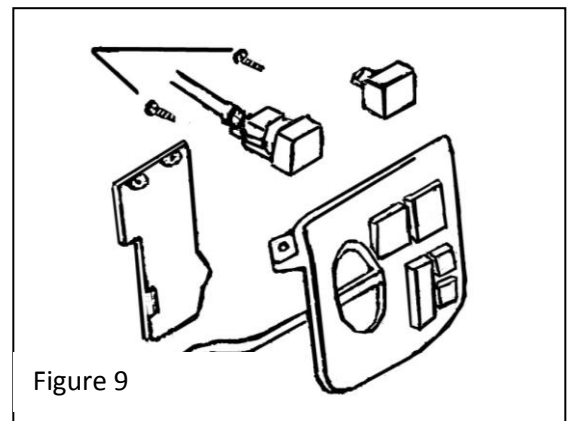

Figure 9
**13.** Remove Allen screw and remove left control panel, Figure 9.
**14.** Remove switch cover on back of control panel, Figure 9.